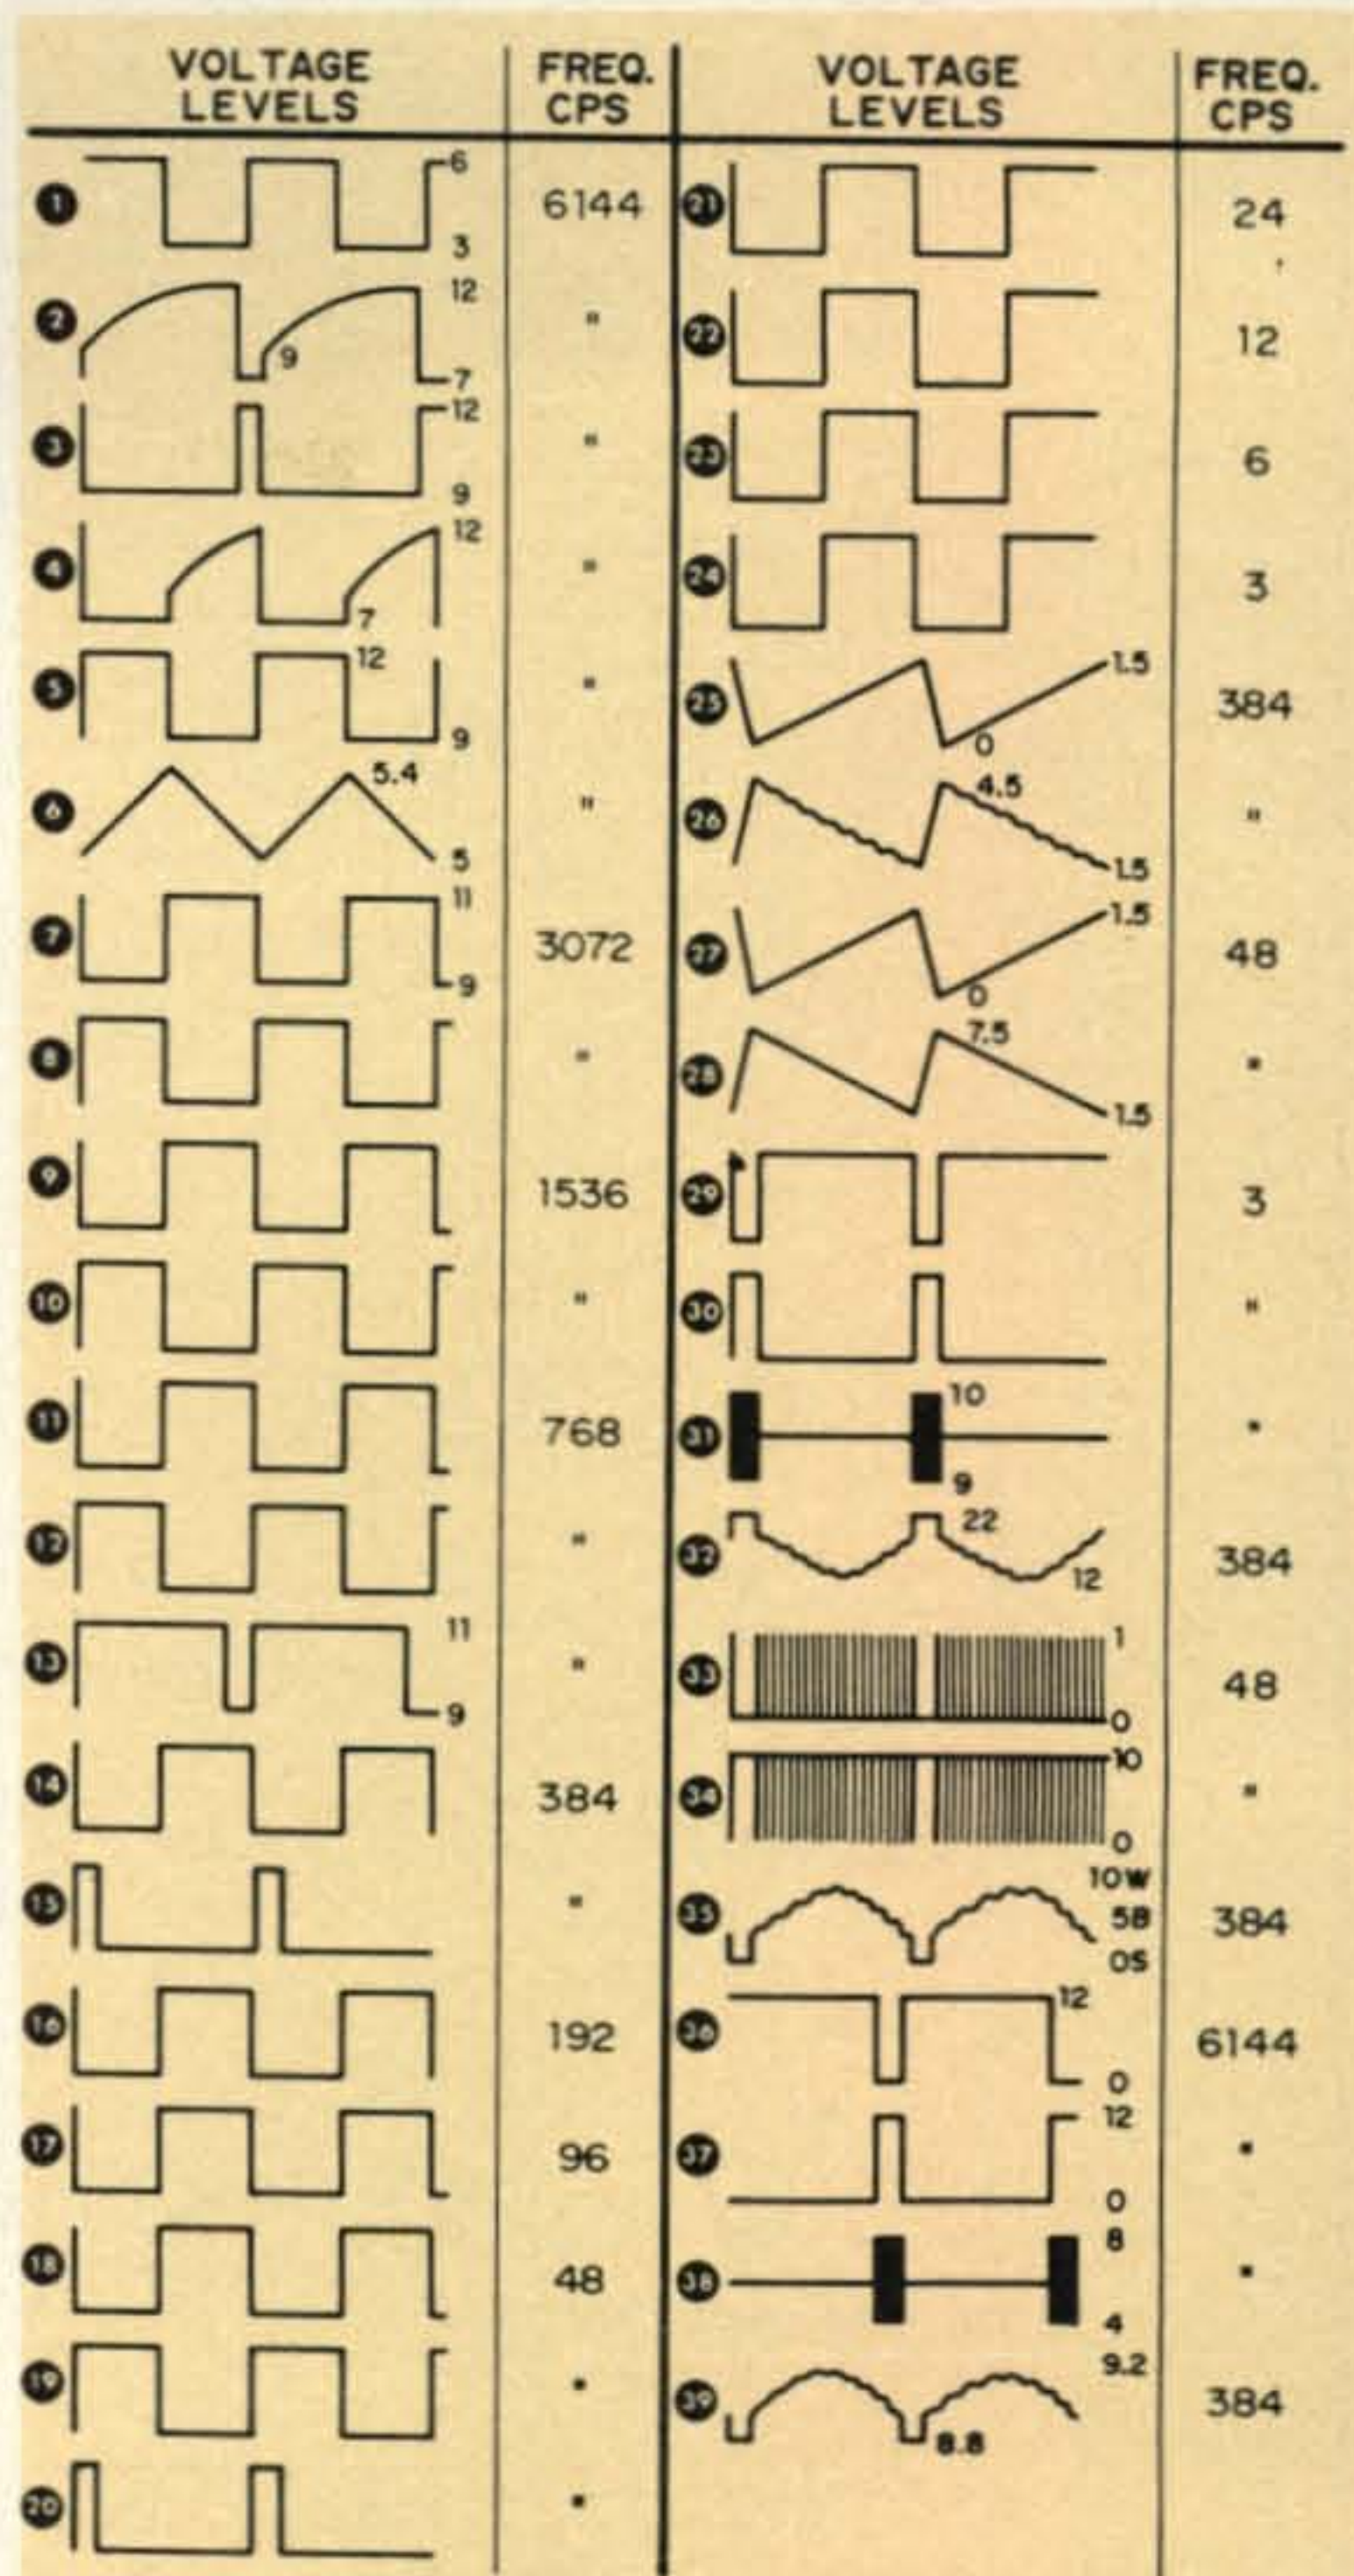

Fig. 8—Transmitter waveshapes, frequencies and voltage levels. All waveshapes are shown starting at  $t = 0$ .
The important waveshapes, voltage levels, and frequencies for fig. 7 are given in fig. 8. All waveshapes are shown starting from the same instant of time. This is at the start of vertical and horizontal retrace, at the start of dot blanking "off" in fig. 2(C), and at the start of the "O" position in fig. 3.
Fig. 7—Video section of the transmitter using a 3.1 kc pseudo-random dot scan system. All transistors are n.p.n. silicon types with a beta of approximately 50 and all diodes are germanium. The blocks marked *BMV* are bistable multivibrators with circuits and parts values identical to those shown in the upper left block (waveform 7-8). The waveforms, frequencies and voltage levels for this circuit are shown in fig. 8.
The vertical and horizontal sync signals are combined with a dot square wave ⑤ to generate the blanking waveshapes ③③ and ③④. The vertical and horizontal sync signals are also combined with incoming video to give ③⑤. On the drawing of this waveshape, (fig. 8), W, B, and S respectively indicate white, black, and sync tip levels.